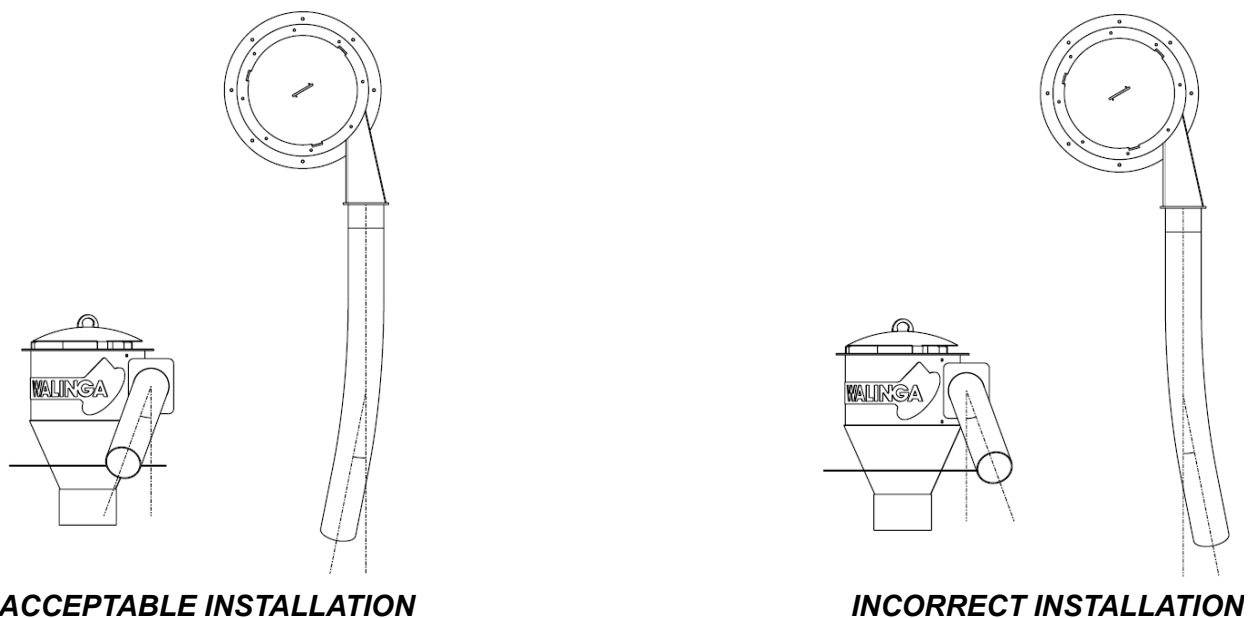

Figure 51: Cyclone elbow installation requirement
- b. For discharge cyclones, verify that the elbow is aligned with the inlet. A slight inward angle, reference **Figure 51**, is acceptable. Any outward angle, reference **Figure 51**, will result in premature wear of the cyclone.